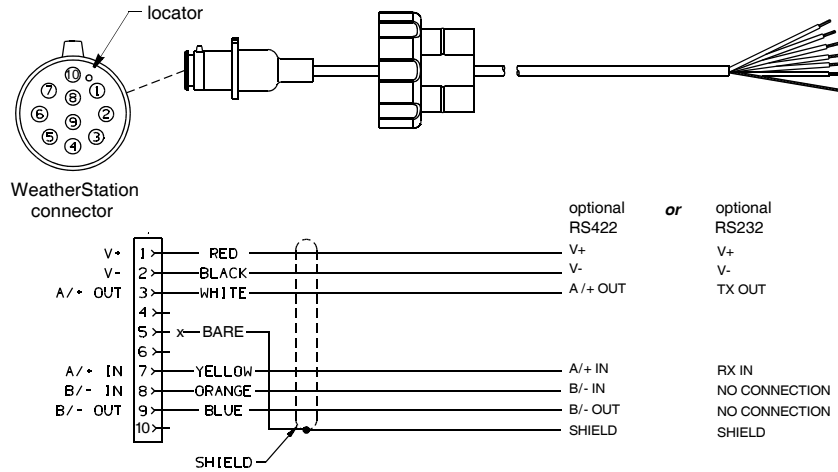
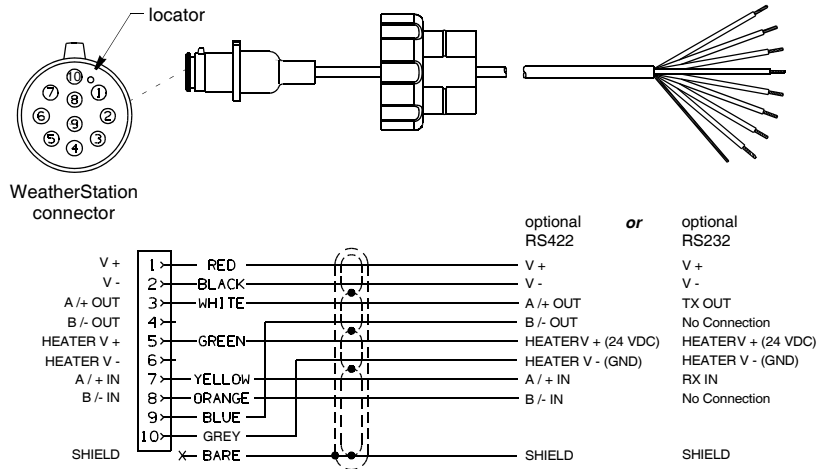

Figure 6. NMEA 0183 WeatherStation Cable—no heater
Figure 7. NMEA 0183 WeatherStation Cable—with heater
If your WeatherStation cable does not have a connector on the display end, it must be hard wired. Referring to the owner's manual that came with your display, connect the colored wires as shown in Figure 6, or Figure 7 if your WeatherStation Instrument has a heater.
**CAUTION:** Your WeatherStation Instrument has either an RS422 or RS232 interface. You must follow the wiring diagram in Figure 6 or 7 that matches your WeatherStation Instrument. If it is wired for the wrong interface, it will not transmit and receive data properly.
2. Strip 60 mm (2-1/2") of the outer jacket and foil shielding from the cut end of the cable (see Figure 6 or 7).